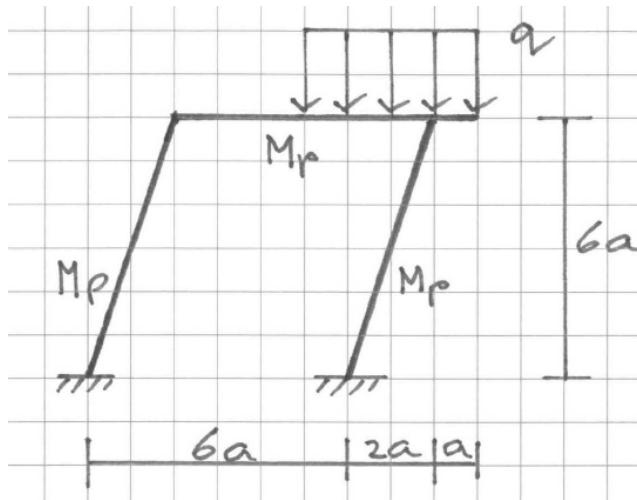
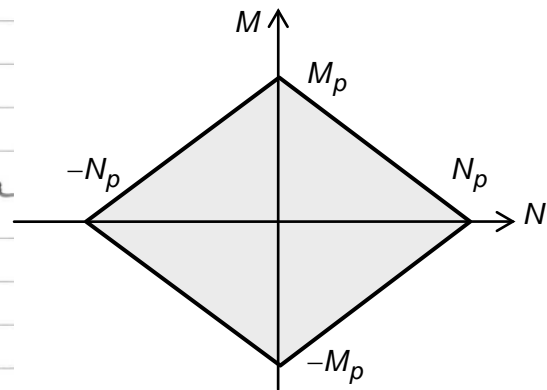

Figure 1. Frame structure
Figure 2. Yield contour
A frame consists of two columns and a beam (Fig. 1). The joints are fixed connections. The structure is loaded by a vertical load q . The relation of Figure 2 exists between the plastic moment M_p and the plastic normal force N_p .
- a** What is the reason for using the rhombic interaction diagram of Figure 2?